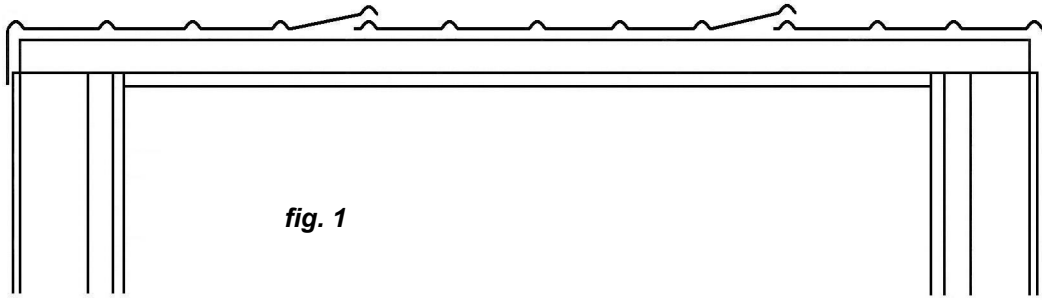

fig. 1
Step 5: Drill a hole through Door Jamb Flashings and Wall Sheets top and bottom. Nail with 50mm nails (**fig. 1**).
Nail left hand Door Jamb Flashing to Stud using three 30mm Clouts at equal spacings (**fig. 1**). Beside each 30mm Clout, rivet Door Jamb Flashing to Rib. Repeat with right hand Door Jamb Flashing.
Position Roof Sheets as shown in **fig 1**. Make sure sheet joins at the back are flush. Rivet sheet joins, one rivet 200mm back from edge front and back. Fit one more rivet in centre of each join.